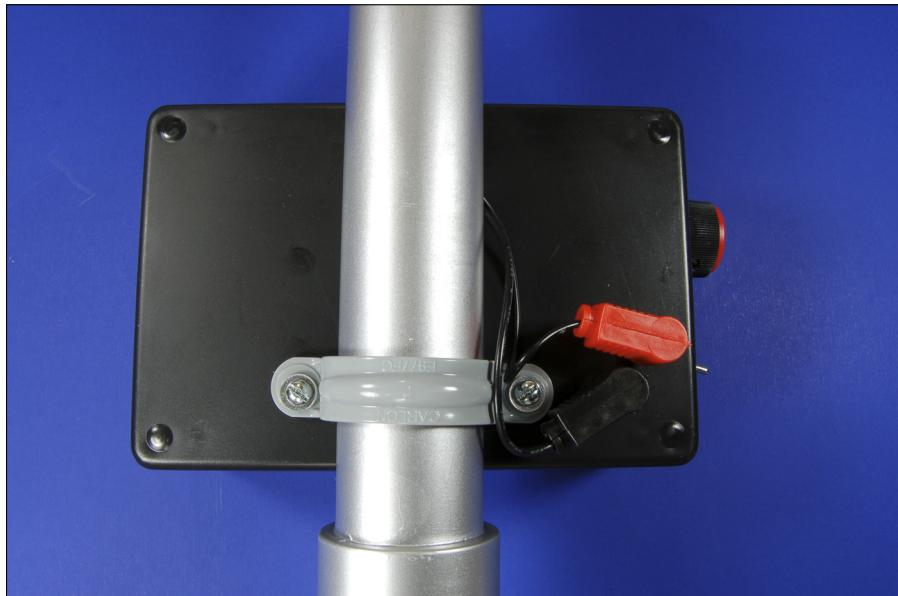

Figure 2-17:
12. Press the clamp onto the 2.5 cm PVC pipe and attach the box to the clamp with the 8-32 screws and nuts (Figure 2-17 shows the box attached to the handle).
13. Plug the right-angle phono plugs into the phono jacks, as shown in Figure 2-17.